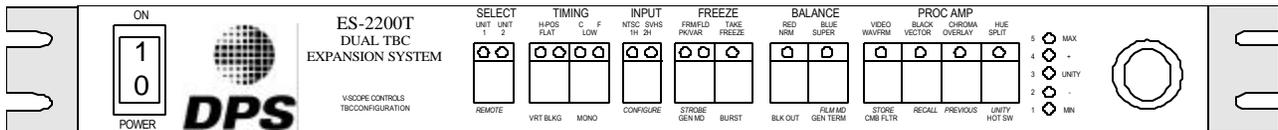

Figure 2-1: ES-2200T Front Panel
6. Install the 3 wire RS-232 cable for unit 1 (figure 2-1) to the 3 pin header labeled INPUT at the top of the first card near the BNC connectors near the fan.
9. Install the 3 wire RS-232 cable for unit 2 (figure 2-1) to the 3 pin header labeled INPUT at the top of the second card near the BNC connectors.